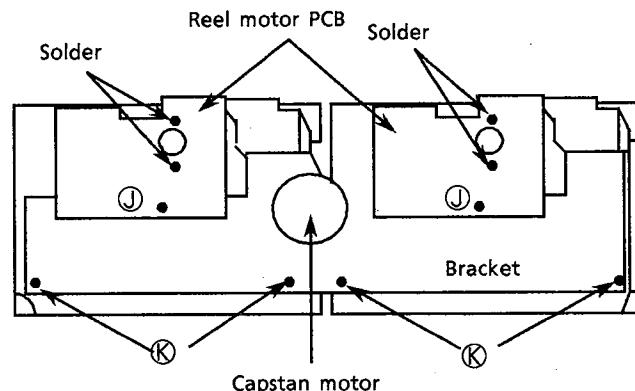

Fig 13
3. Remove the 4 screws  $\textcircled{K}$  fixing the bracket (Fig 13).
3. Remove the screws ⑩ and the bracket (Fig 13).